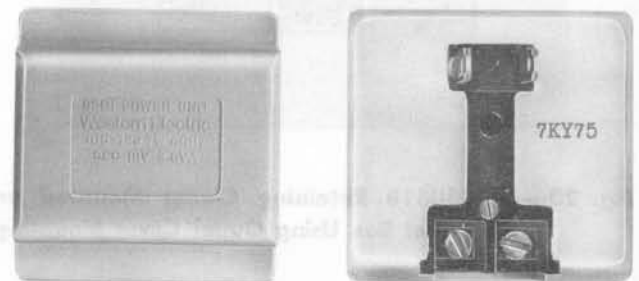

Fig. 19—85B1 Power Unit
12.01 The 85B1 power unit (Fig. 19) is used to furnish ac power for the 4A speakerphone system. Available in Light Olive Gray (-49) only.